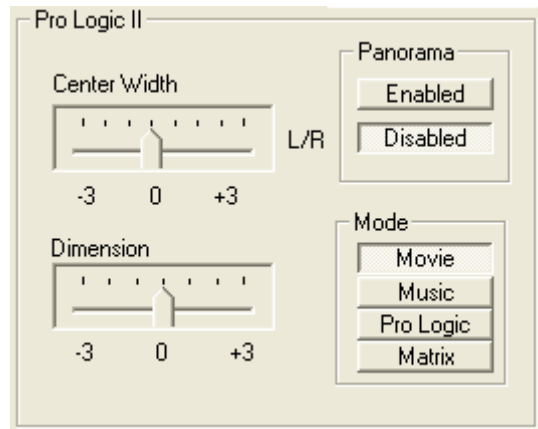

Figure A-5 Pro Logic II Controls
1. Select a mode by pressing one of the buttons shown in Figure A-5. The default is **Movie**.
2. In **Music** mode, use the sliders shown in Figure A-5 to adjust the **Center Width** value and **Dimension** values. The default for both is **0**.